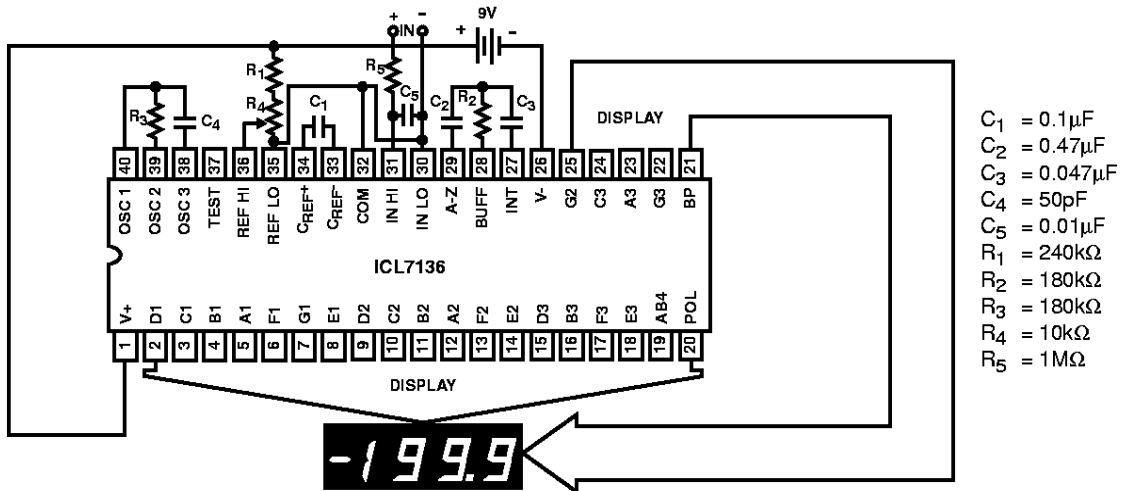
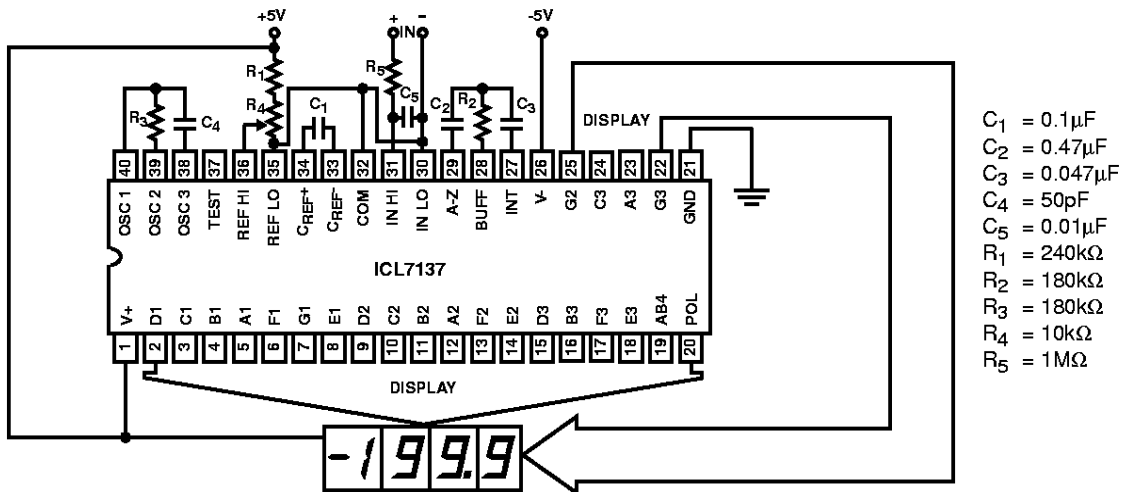

FIGURE 1. ICL7136 TEST CIRCUIT AND TYPICAL APPLICATION WITH LCD DISPLAY COMPONENTS SELECTED FOR 200mV FULL SCALE
FIGURE 2. ICL7137 TEST CIRCUIT AND TYPICAL APPLICATION WITH LED DISPLAY COMPONENTS SELECTED FOR 200mV FULL SCALE
- Unless otherwise noted, specifications apply to both the ICL7136 and ICL7137 at $T_A = 25^\circ C$, $f_{CLOCK} = 48kHz$. ICL7136 is tested in the circuit of Figure 1. ICL7137 is tested in the circuit of Figure 2.